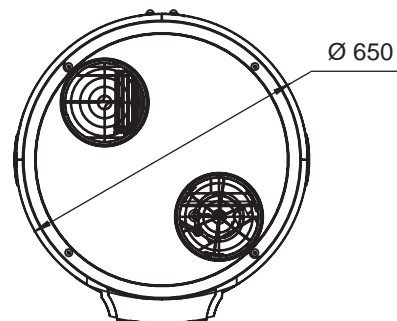

Fig. 4-2
- Outline dimensional drawings: see Fig. 4-1 and Fig. 4-2.